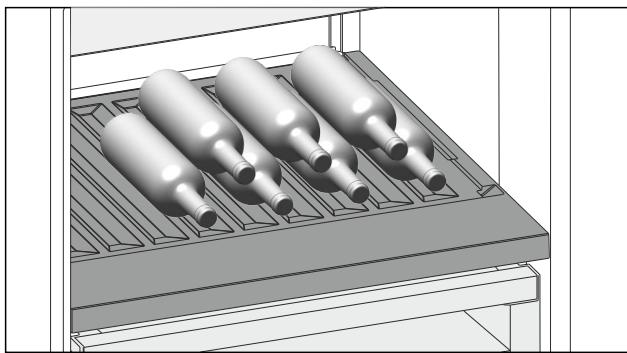

Fig. 109
- ▶ Place bottles in the back row with their bases against the back wall. (see Fig. 109)